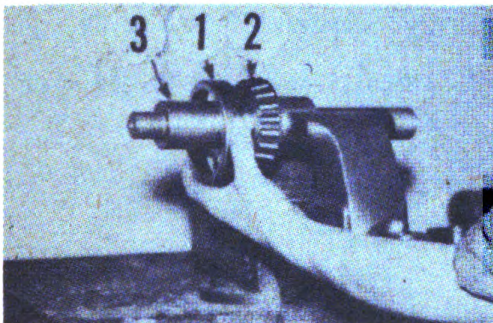

Figure 7. REMOVING INNER TIMKEN
1. Place Timken cone, with rollers (2) on idler stud (3) against shoulder. Slip on Timken cup (1). See Figure 7.